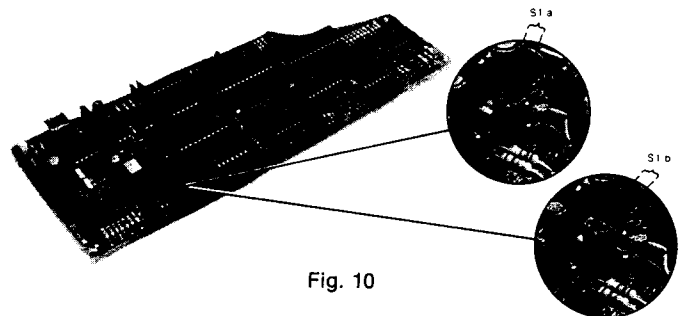

Fig. 10
- The phase compensation of the video signal is changed by means of the bridge connector S 1. In Sweden, Norway and England compensation according to fig. 10 a is used, but at certain difficult receiving conditions the Teletext reception can be improved if the connector is placed according to fig. 10 b. In the rest of Europe, compensation according to fig. 10 b is used under normal conditions, and according to fig 10 a under certain difficult receiving conditions.